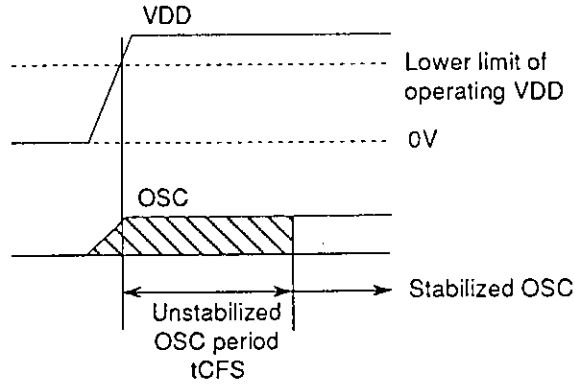

Fig. 4 Oscillation Stabilizing Period
| Stable time | tCFS | Fig.4 fo=400kHz Fig.4 fo=800kHz,1MHz,4MHz, 1/3 predivider,1/4 predivider | | | | 10 10 | ms ms | |
- (*1) When oscillated internally under the oscillating conditions in Fig.4, up to the oscillation amplitude generated is allowable.